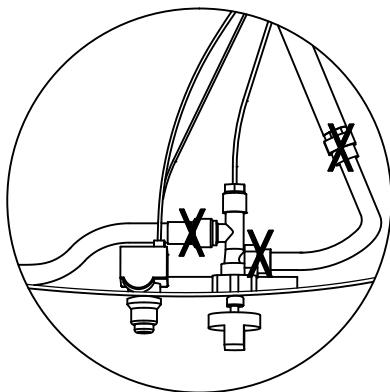

Figure 1
4. Please refer to diagram for proper installation (figure 1 and 2).
5. If the burner/venturi tube does not rest flush to the orifice as shown (figure 1 and 2), please contact 1-866-905-4107 for assistance.
5. Spoon several drops of solution, or use a squirt bottle, at all “X” locations (Figure 1 and 2).